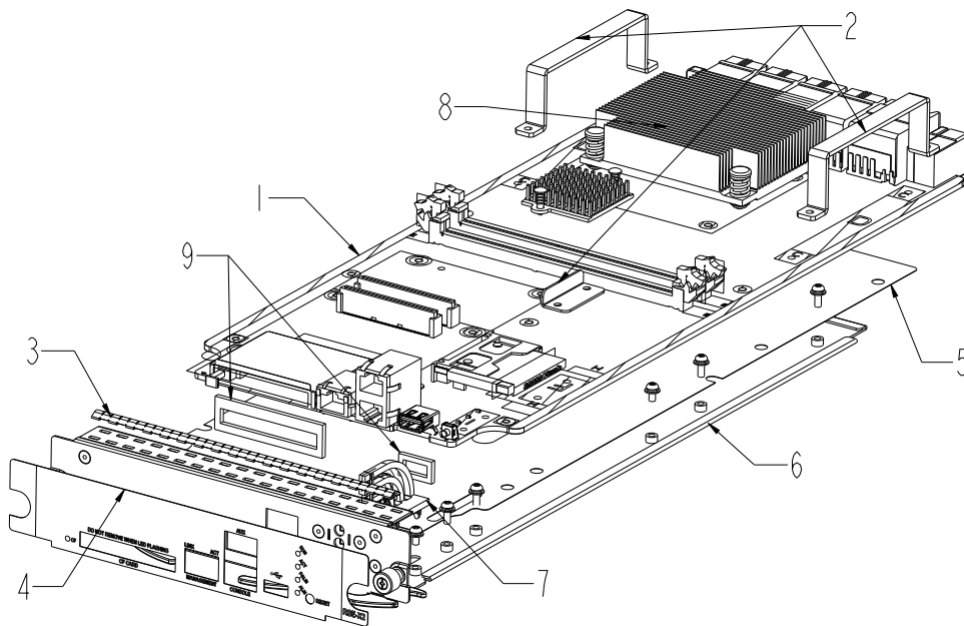

Figure 1 Explode View of the Front Panel
6. All the steps above see Figure 1. Remove the battery from pcb 1, and the detail steps as below: